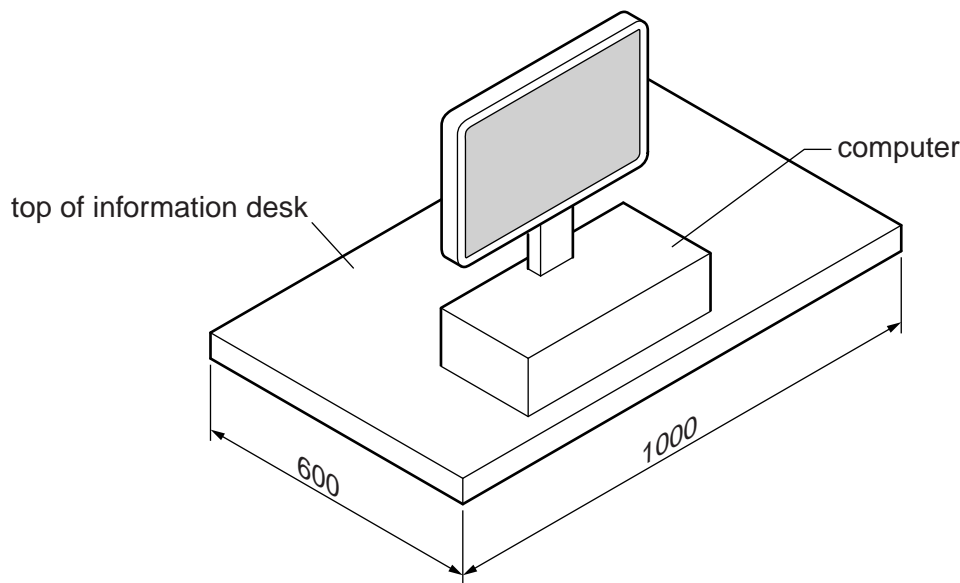

Fig. 9
- 7 Fig. 9 shows an incomplete design for an information desk which will be used in a hotel's reception area.